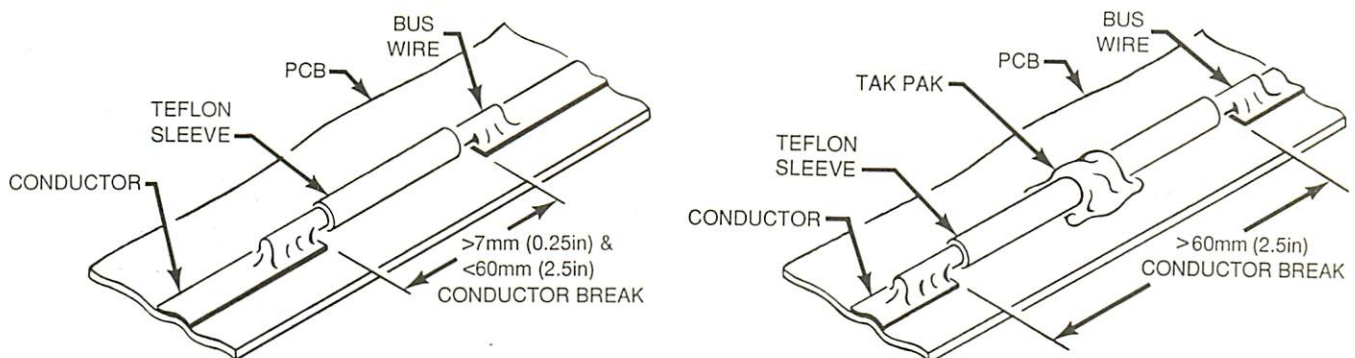

FIGURE 4-5. REPAIRING A CONDUCTOR BREAK GREATER THAN 7mm
- B. Perform the following steps to repair a break greater than 7mm (0.25in). Do not attempt to repair breaks longer than 12 inches. Refer to Figure 4-5, Repairing A Conductor Break Greater Than 7mm.
5. Jumpers longer than 60mm (2.5in) require an additional adhesive such as Tak Pak, applied at least every 50mm (2in) along the sleeved jumper. Refer to Figure 4-5, Repairing A Conductor Break Greater Than 7mm.